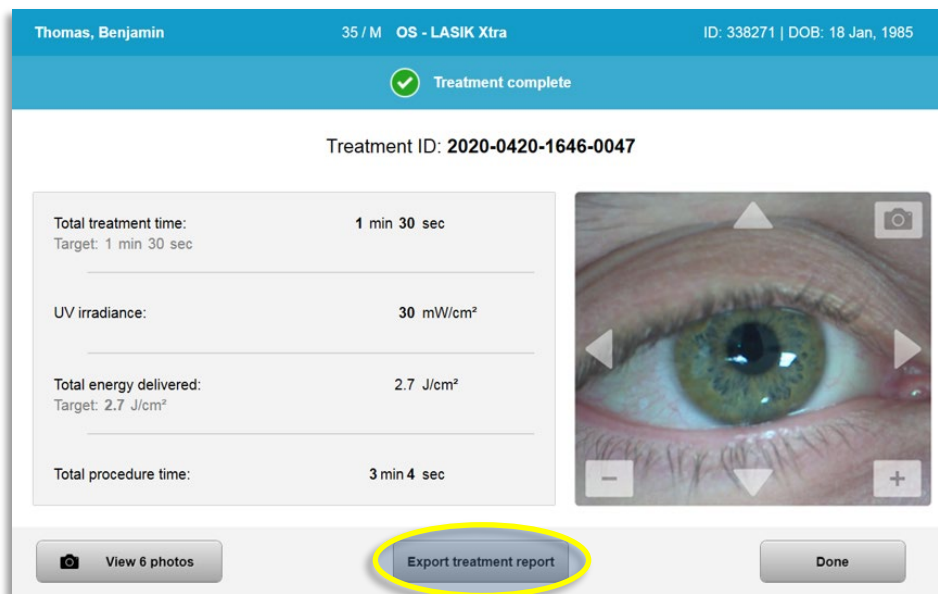

Figure 3-39. Exporting Treatment Report
- o Select “Export treatment report” as shown in Figure 3-39 to save report to a USB stick.